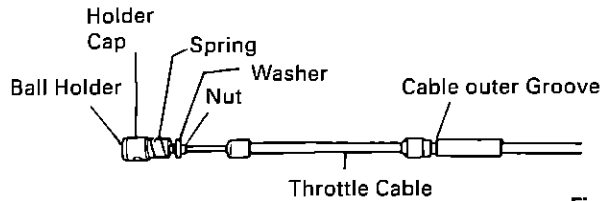

Fig. 11
- ① Connecting the Holder Cap and Sleeve B Guide
- Throttle side Insert the cable in the Grommet B and install the Washer, the Spring, the Holder cap and the Ball Holder on the end of the Cable. Secure it with the Nut. (Fig. 11)
Confirm whether the carburetor's throttle is fully closed when the control lever is shifted to the Neutral position. If it is not, adjust the position of the ball holder. (Fig. 11)